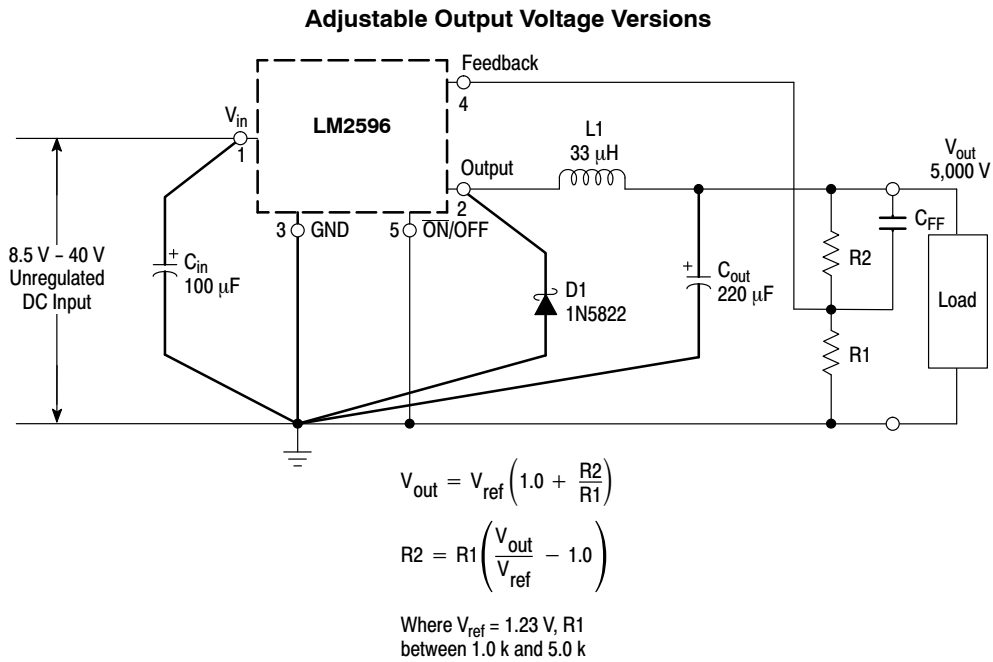

Figure 15. Typical Test Circuit
| LM2596 (Note 1, Test Circuit Figure 15)                                                                                               |               |                      |            |                      |               |
- External components such as the catch diode, inductor, input and output capacitors can affect switching regulator system performance. When the LM2596 is used as shown in the Figure 15 test circuit, system performance will be as shown in system parameters section.
TYPICAL PERFORMANCE CHARACTERISTICS (Circuit of Figure 15)
### TYPICAL PERFORMANCE CHARACTERISTICS (Circuit of Figure 15)
As in any switching regulator, the layout of the printed circuit board is very important. Rapidly switching currents associated with wiring inductance, stray capacitance and parasitic inductance of the printed circuit board traces can generate voltage transients which can generate electromagnetic interferences (EMI) and affect the desired operation. As indicated in the Figure 15, to minimize inductance and ground loops, the length of the leads indicated by heavy lines should be kept as short as possible.